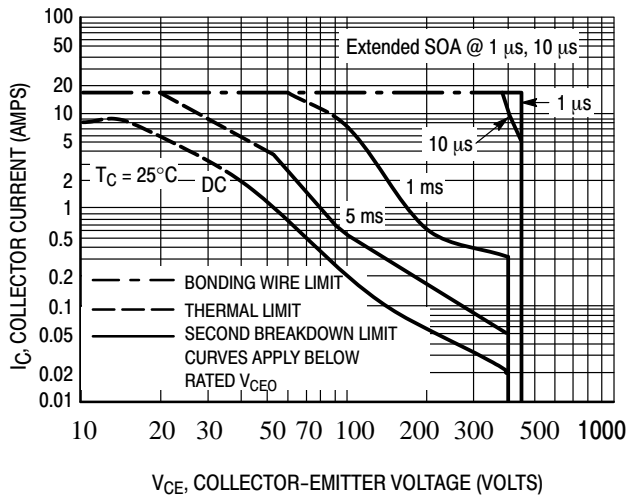
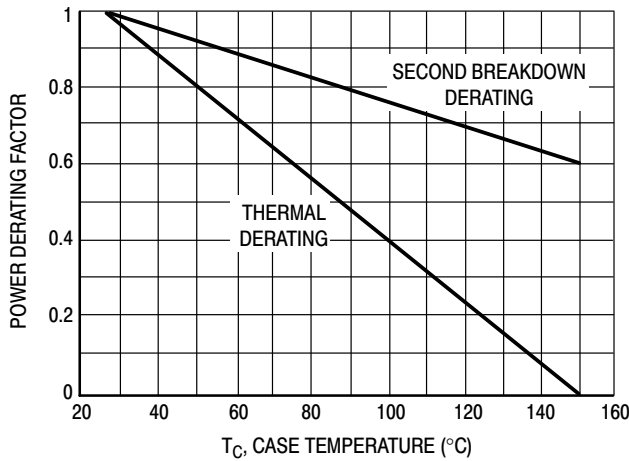

Figure 6. Maximum Forward Bias Safe Operating Area
Figure 8. Forward Bias Power Derating
The data of Figure 6 is based on $T_C = 25^\circ\text{C}$; $T_{J(pk)}$ is variable depending on power level. Second breakdown pulse limits are valid for duty cycles to 10% but must be derated when $T_C \geq 25^\circ\text{C}$. Second breakdown limitations do not derate the same as thermal limitations. Allowable current at the voltages shown on Figure 6 may be found at any case temperature by using the appropriate curve on Figure 8.
The sustaining or active region voltage requirements in switching applications occur during turn-on and turn-off. If the load contains a significant capacitive component, high current and voltage can exist simultaneously during turn-on and the pulsed forward bias SOA curves (Figure 6) are the proper design limits.
2. The turn-on time does not exceed 10 μ s (see standard pulsed forward SOA curves in Figure 6).